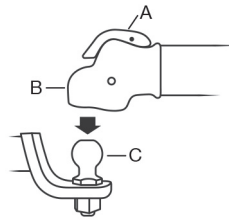
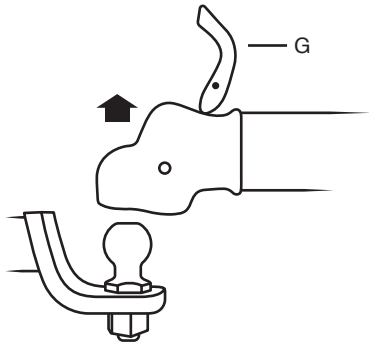

Figure 1
Figure 6
Check that coupler release-lever (A) is in fully down position. Lower the coupler (B) onto the hitch-ball (C) as shown. (Figure 1) The coupler should snap onto the hitch-ball securely.
Raise the coupler release-lever (G) to a vertical position. (Figure 6) If release-lever will not raise with normal hand effort; push rearward on the trailer, or drive forward slightly, until release-lever will raise by normal effort. Next, lift the coupler completely off the hitch-ball, then carefully lower the trailer tongue to the ground. Lower the release-lever to fully down position when finished. (See Figure 1).